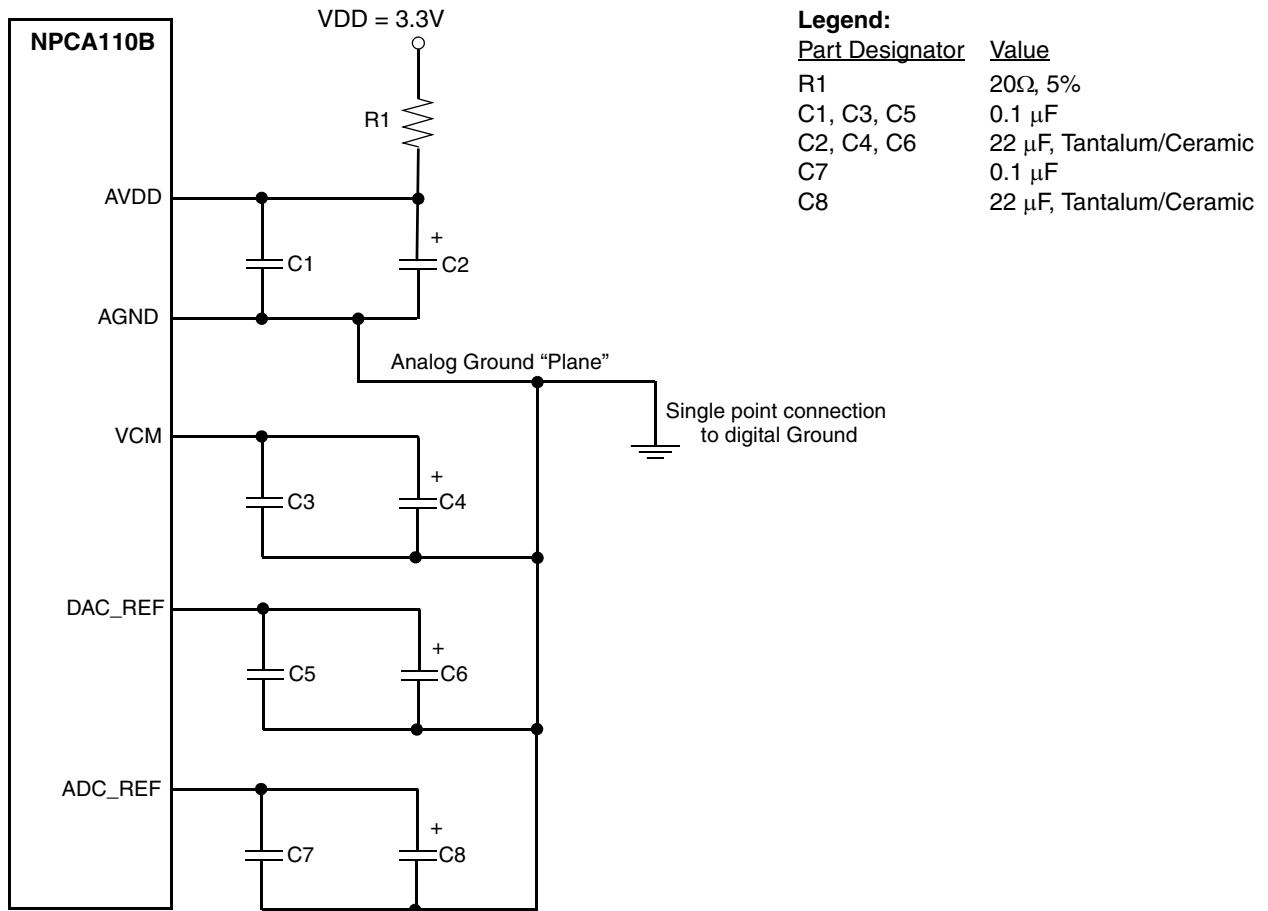

Figure 5. Recommended CODEC Power Connection Diagram
**Note:** Codec power connections are found in Figure 5 on page 14